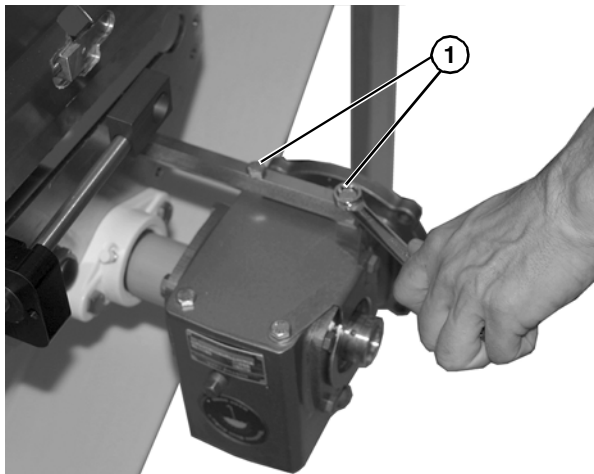

Figure 27
6. Secure gear reducer to mounting post with two screws (**Figure 27, item 1**). Tighten mounting screws to 200 in-lbs (22.5 N m).